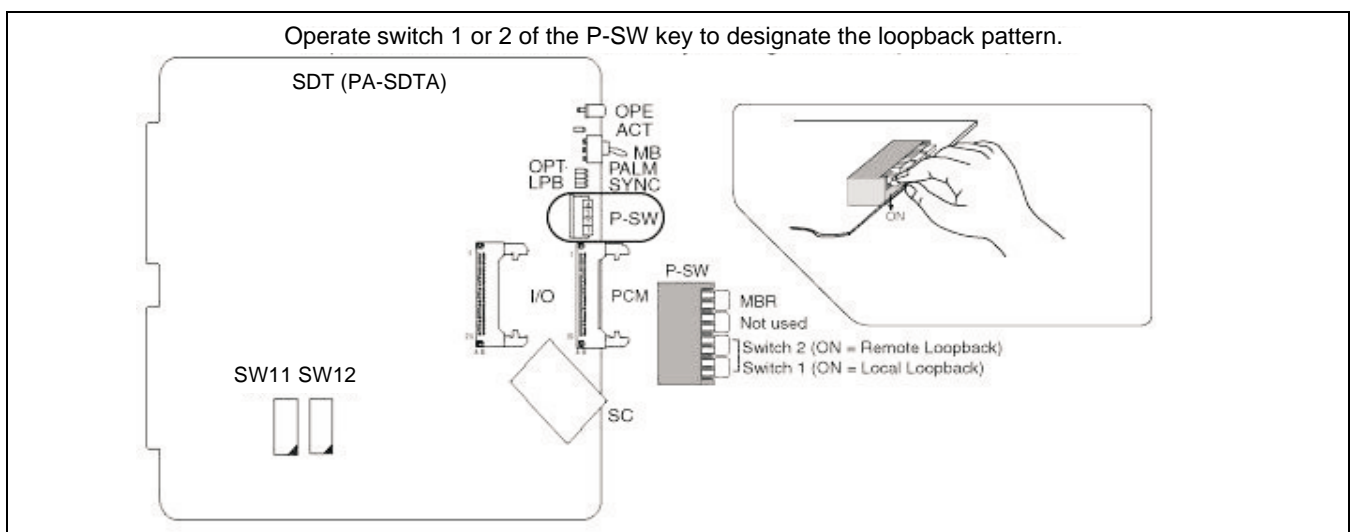

Figure 6-15 Loopback Setting by P-SW keyon PA-SDTA Card
STEP 1: Designate the loopback test pattern by setting the P-SW key on the SDT (PA-SDTA) card. Refer to Figure 6-15.
STEP 3: Return the key settings of the P-SW key (on PA-SDTA card: see Figure 6-15) to the original position.